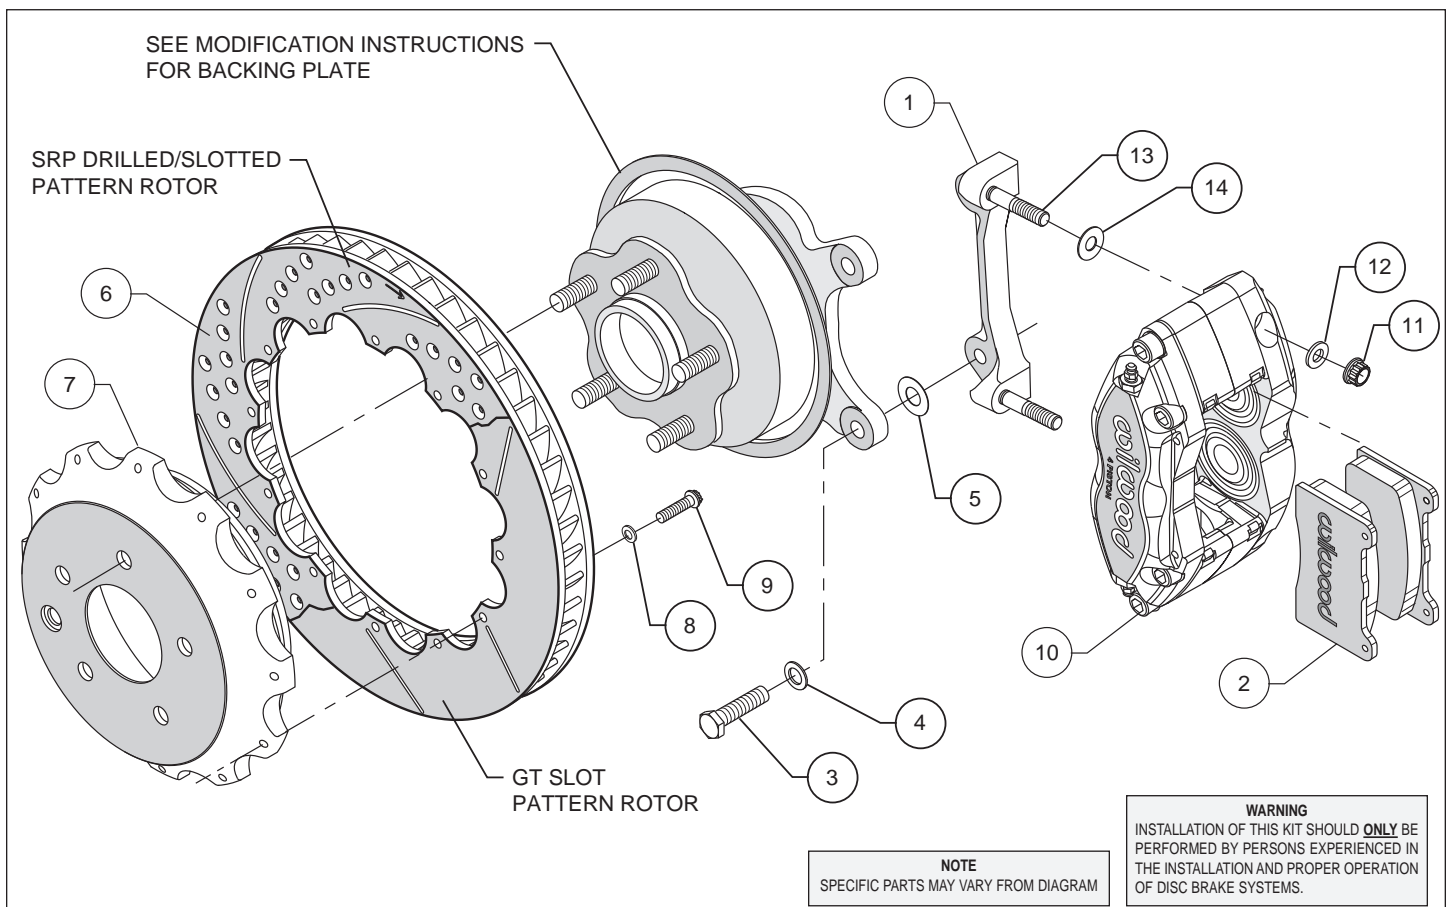
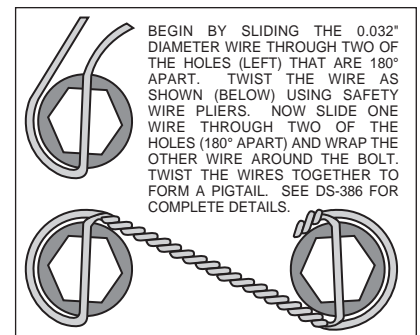

Figure 1. Typical Installation Configuration
Figure 3. Safety Wire Diagram
- The caliper mount bracket assembly (1) should be installed first with clean, dry threads on the mounting bolts. Install the bracket from the rear side of the hub by sliding bolt (3) through washer (4), and through the OEM caliper mounting bracket ears, then through shim washer (5) and into the bracket (1). The bracket must tighten squarely against the inboard side of the caliper mount bosses on the upright. Inspect for interference from casting irregularities, machining ridges, burrs, etc. Use one thin shim (5) between the bracket and upright during initial trial fitting. Later, after the caliper, pad, and rotor alignment has been checked, and any necessary shims have been put in place, the mounting bolts should be coated with red *Loctite*® 271 and torqued to 60 ft-lbs.
- Assemble the rotor (6) to the hat (7) with the bolts (9) and washers (8) as indicated in the configuration pictured in Figure 1. Using an alternating sequence, apply red *Loctite*® 271 to the threads and torque bolts to 140 **in-lb**. For an added measure of security, the bolts may be safety wired using standard 0.032 inch diameter stainless steel safety wire as shown in Figure 3.
- Install one shim (14) over each stud (13) on the radial mount bracket (1). Slide the caliper (10) in place over the studs and rotor and install the washer (12) and lock nut (11) to hold the caliper in place. Snug the lock nuts (11) and check that the rotor (6) is centered in the caliper (10). Add or subtract .015" shims (5) as necessary between the caliper mount bracket (1) and the caliper mount bosses on the upright assembly to center the caliper.
- Remove the quick-clip pad retainer from the caliper. Slide the brake pads (2) into place. They should install easily without interference. Check that the outside radius of the brake pad is aligned with the outside diameter radius of the rotor face. Add or subtract shims (14) between the caliper and mount bracket to gain the proper alignment. Reinstall the quick-clip pad retainer.
- Once all clearances have been checked, remove the wheel, caliper, hat, and rotor from the axle flange. Secure the caliper mounting bracket (1) to the OEM caliper mounting ears using red *Loctite*® 271. Torque the bolts to 60 ft-lbs. Reinstall the hat and rotor assembly and again use several lug nuts to hold it in place. Lubricate caliper mounting studs and nuts with lightweight oil, reinstall the caliper, torque the caliper nuts (11) to 30 ft-lbs.